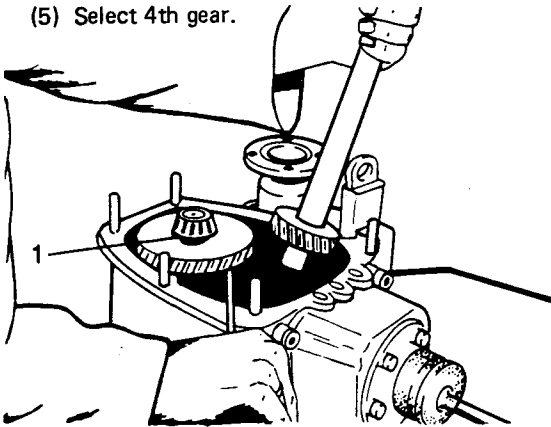

Fig H1.47
- (6) Refer to Fig H1.47. Move the layshaft upwards and to one side and remove the primary shaft (1).